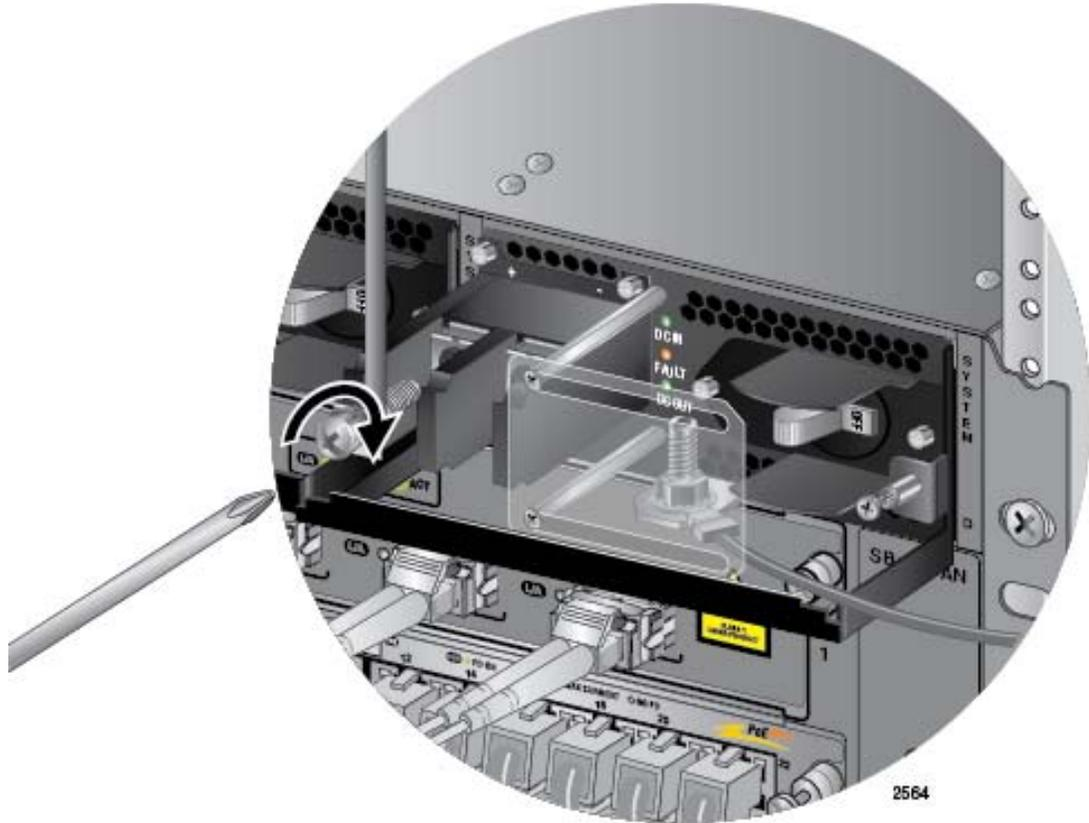

Figure 137. Connecting the Positive Wire
5. Wrap the positive lead wire clockwise around one of the terminal screws and secure the screw and wire to the positive terminal connection on the terminal block with a #3 Phillips-head screwdriver. The positive terminal is on the left. You may attach the wire to the terminal so that it extends either above or below the terminal block. Figure 137 on page 197 shows the wire above the terminal block. Allied Telesis recommends tightening the screw to 30 to 40 inch-lbs.